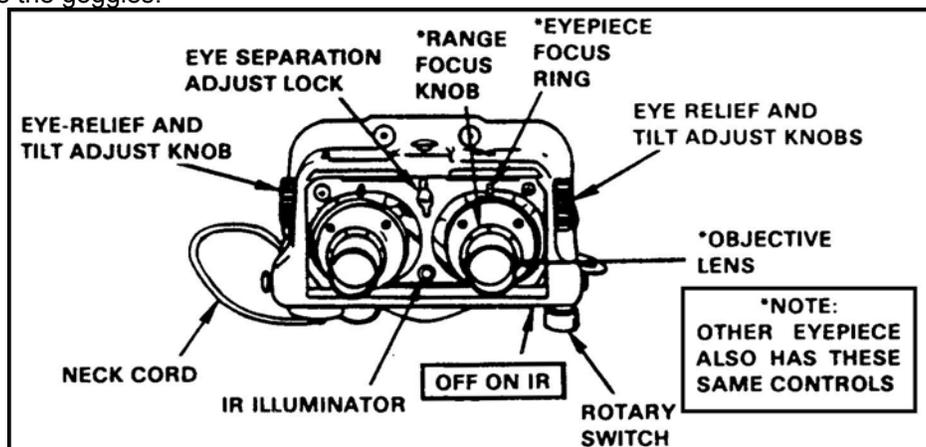

Figure 7. Control locations.
**NOTE:** Refer to Figure 7 for the location of controls on the AN/PVS-5, AN/PVS-5A, AN/PVS-5B, and AN/PVS-5C.
- (1) The proper sight picture has one circular image with a slight overlap.
- (2) An improper sight picture may be due to the monocular being improperly positioned in front of the eyes.
- (3) Tighten the lever clamp (wing nut) clockwise finger tight. Do not over tighten the lever clamp (wing nut).